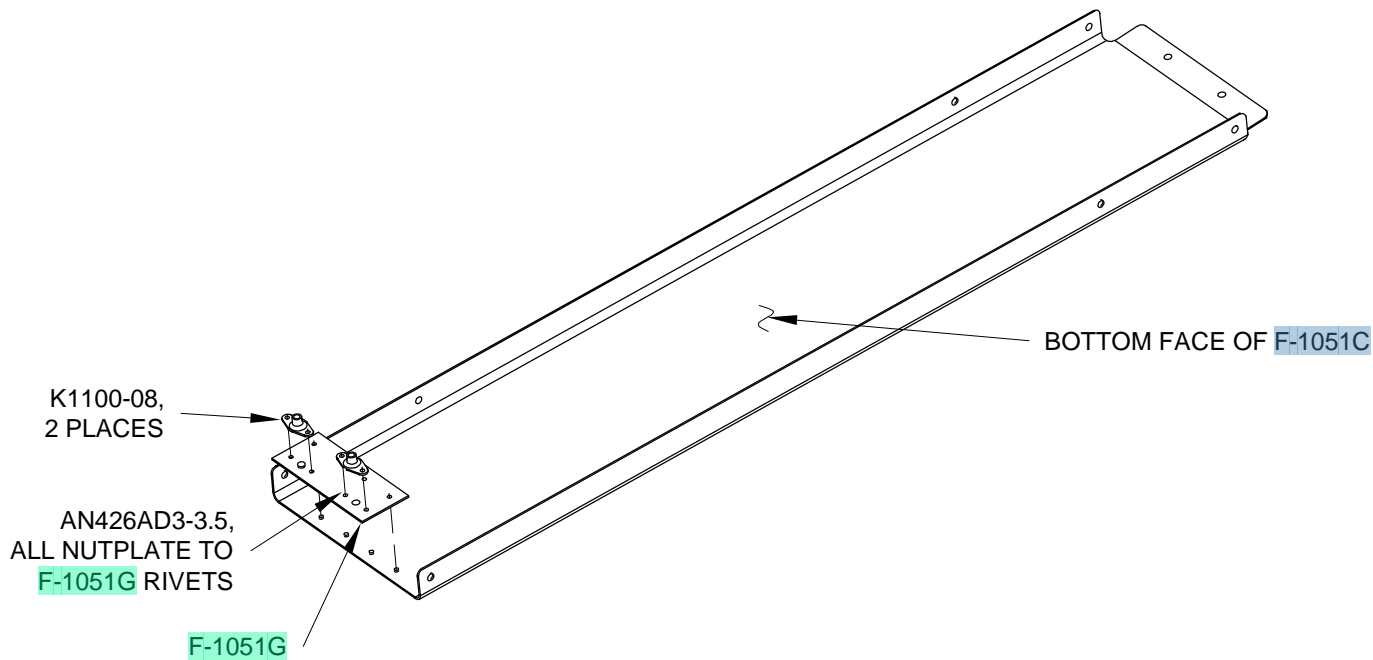

FIGURE 1: AFT FUSE TUNNEL COVER ASSEMBLY
Step 4: Repeat Step 1 then rivet the parts clecoed together in Step 1, and the two nutplates common to the F-1051G Splice Plate per the callouts in Figure 1. This will create the Aft Tunnel Cover Assembly.